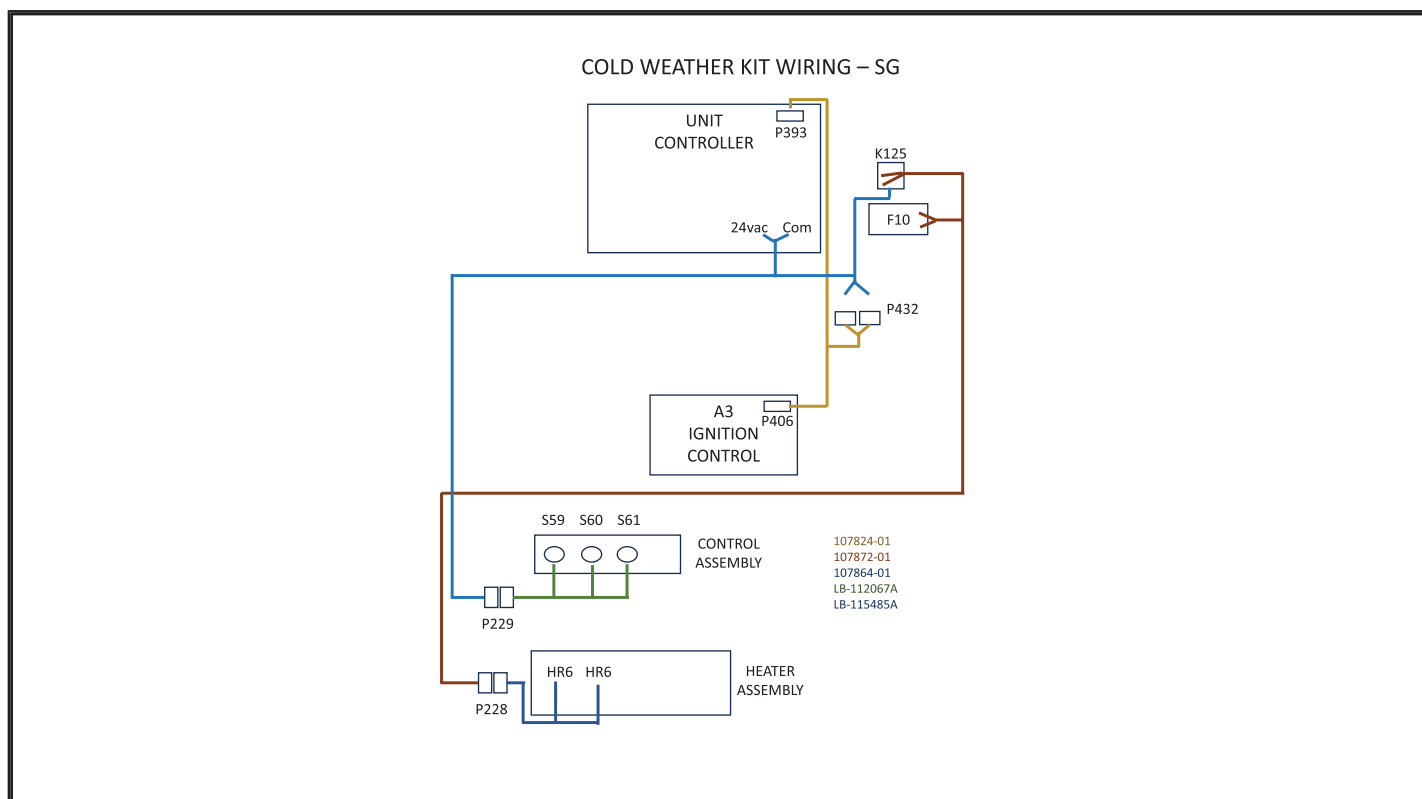

FIGURE 24
- 4 - Make wire connection as shown in FIGURE 24.